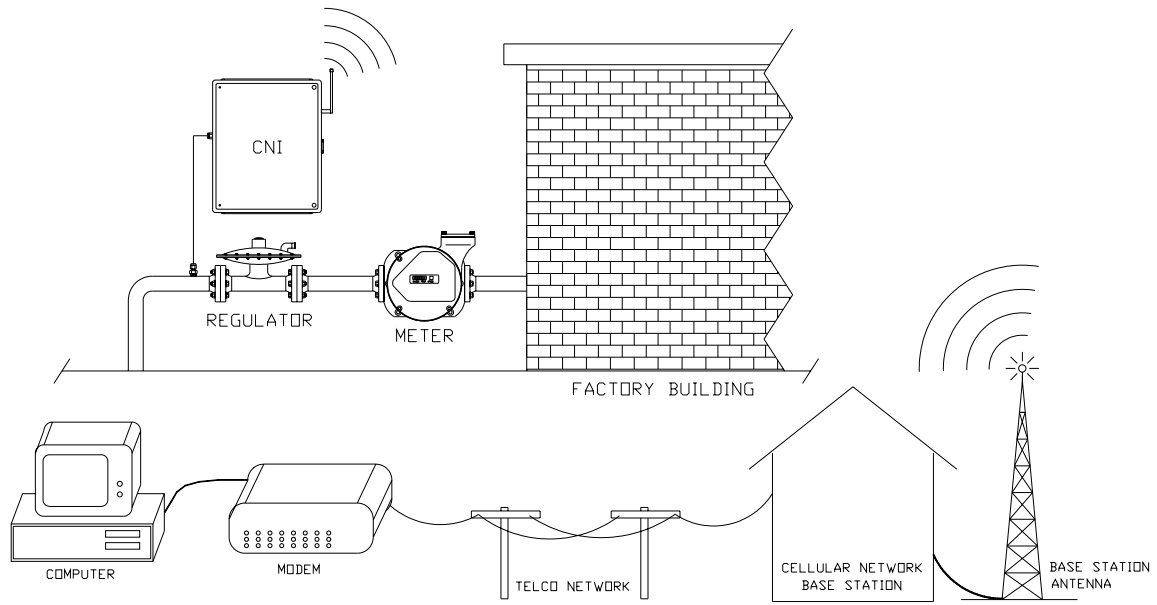

Figure 1-1
- Digital cellular networks are rapidly expanding and replacing earlier analog systems. More efficient use of the radio spectrum permits the network to handle many more calls at a given time, and to offer new features including data exchange. In the case of the CNI, a GSM or CDMA cellular phone link is utilized to provide the most economical and reliable solution. Figures 1-1 and 1-2 provide simplified illustrations of the network from end-to-end.